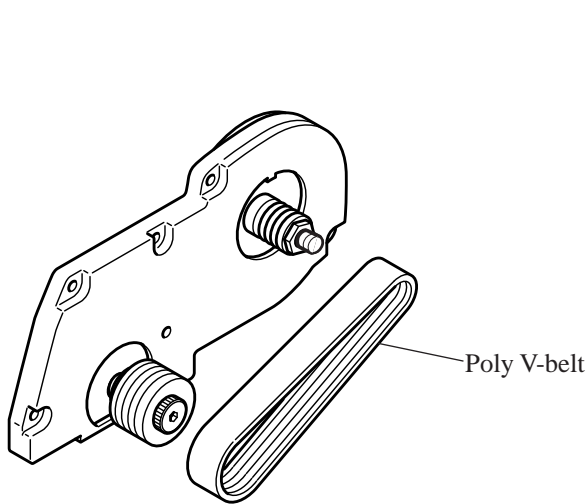

Fig. 5
(2) Mount poly V-belt. See Fig. 5.